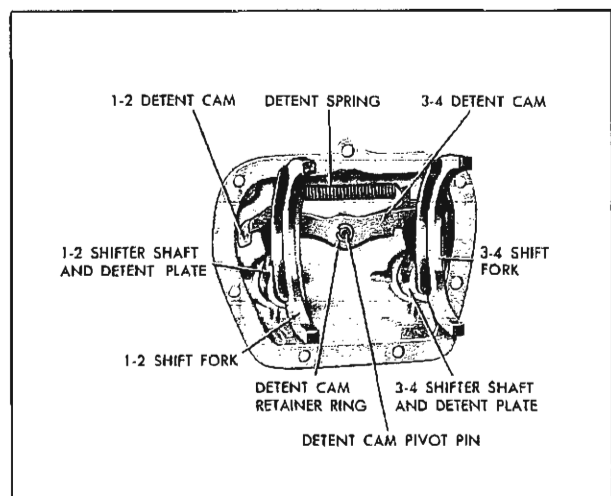

Fig. 7A-11 Transmission Side Cover Assembly
It is not necessary to remove transmission from vehicle for inspection or replacement of parts in transmission side cover assembly, but the side cover assembly itself must be removed from transmission case (Fig. 7A-11).
2. Disconnect control rods from levers (Fig. 7A-8).